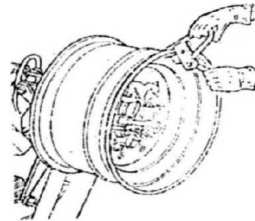

Fig13
- 3) Clamp the pliers at the highest point on the outside of the edge of the rim (Figure 13)